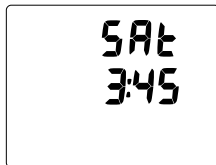

Fig. 48 - DESATURATION
**TIME TO DESAT**, information includes (Fig. 48):